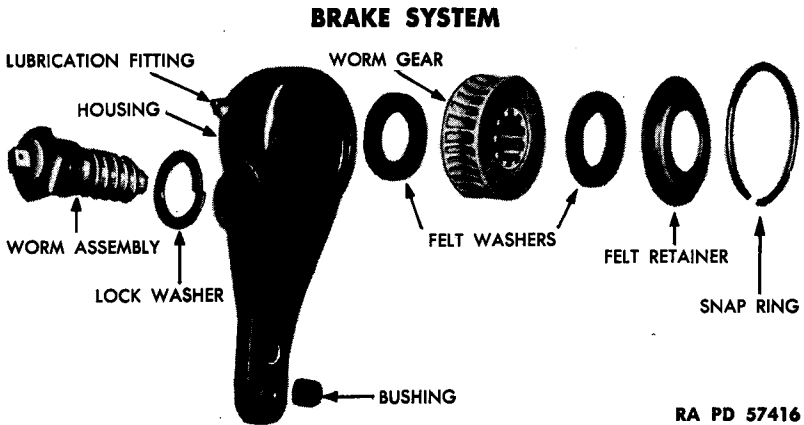

Figure 3 – Slack Adjuster – Disassembled
a. **Description.** The slack adjusters (fig. 3) act as brake levers, and also provide a quick and easy method of adjusting the brakes. The slack adjusters are mounted on the brake camshafts, and are attached to the equalizers. Air pressure in the brake cylinder moves the slack adjusters and the camshafts, thus expanding the shoes against the brake drums.
a. **Disassembly** (fig. 3). Screw out worm assembly in a counter-clockwise direction, and remove assembly and lock washer from housing. **NOTE: Do not disassemble the worm assembly.** Pry snap ring out of adjuster housing. Lift out felt retainer, outer felt, worm gear, and inner felt. Remove lubrication fitting. Press bushings out of slack adjuster arm.
(1) Remove all grease from slack adjuster housing. Wash housing and all parts in dry-cleaning solvent.